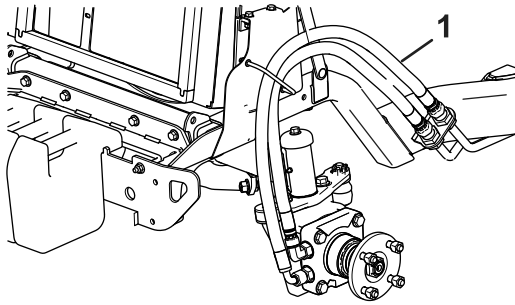

Figure 8
- Route the hoses through the hose guide (Figure 8).